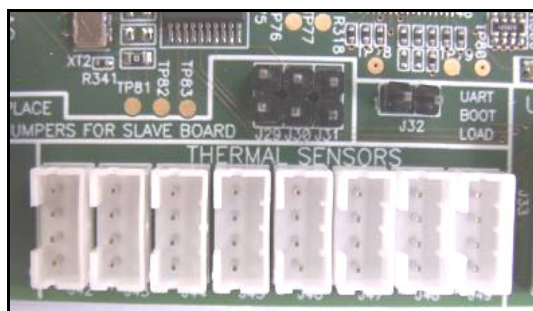

Figure 20: Thermal Sensors Connector
5. Thermal Sensors (see Figure 20)